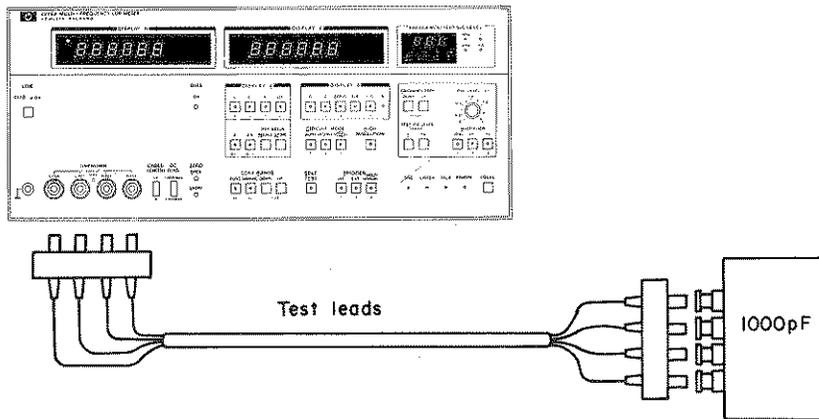

Figure 5-10. CMR Amplifier 2MHz Gain Adjustment Setup.
5. Connect the 1000pF standard capacitor using 1m test leads as shown in Figure 5-10.